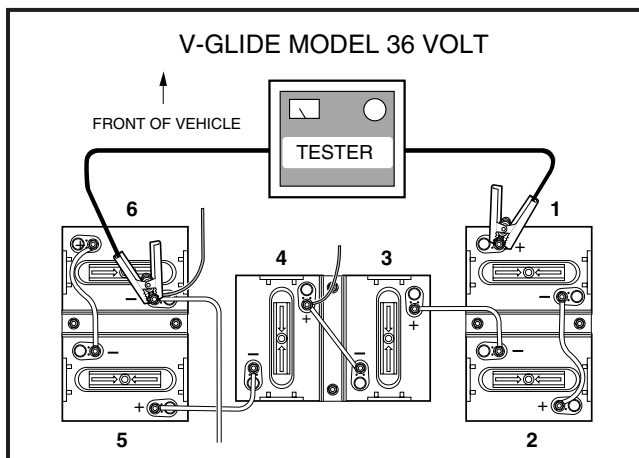
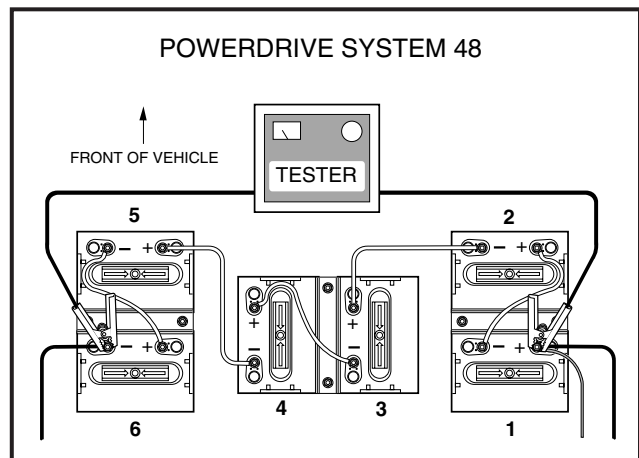

FIGURE 18-10
FIGURE 18-11
2. Connect the tester leads to the positive (+) post of battery No.1 and negative (-) post of battery No. 6 **(See Figure 18-10 for V-Glide 36 volt vehicle. See Figure 18-11 for PowerDrive System 48 vehicle).**